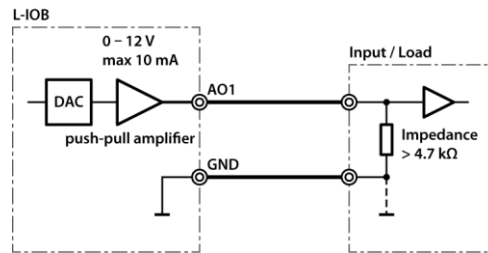

Figure 79: Analog outputs
Figure 79 shows the wiring of the analog outputs (AO). Observe that the analog outputs are labeled '0-10V OUT' but are in fact capable of delivering over 11V.